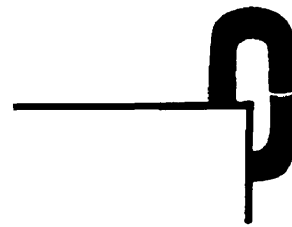

Figure 7
2. Position the link vertically at the edge of the vise with the level of the separation above the top edge of the vise jaw (Figure 7).